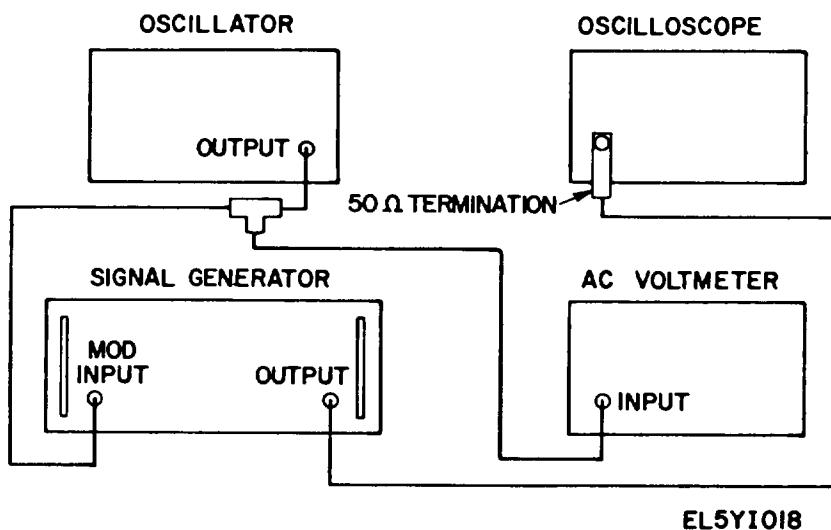

FIGURE 9-7. TEST SETUP, EXTERNAL AM
- a. Connect the equipment as shown in figure 9-7.